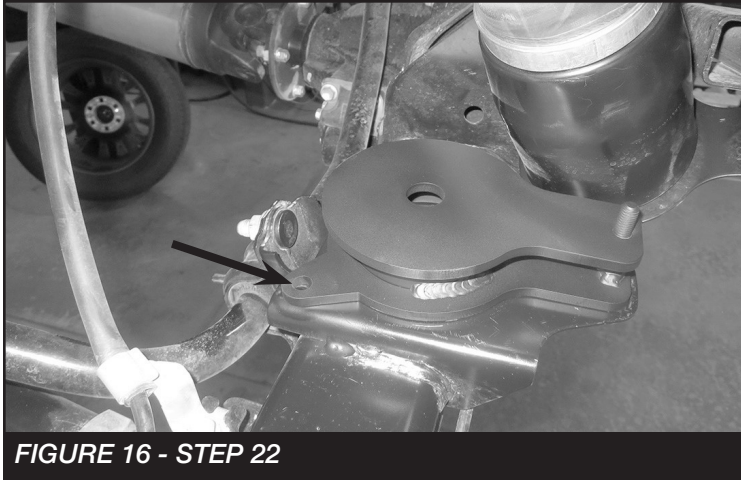

FIGURE 16 - STEP 22
22. Place FT70311 (Driver spacer) onto the axle mount by inserting the threaded stud through the hole just drilled. Mark and drill the forward hole to 7/16". **SEE FIGURE 16**